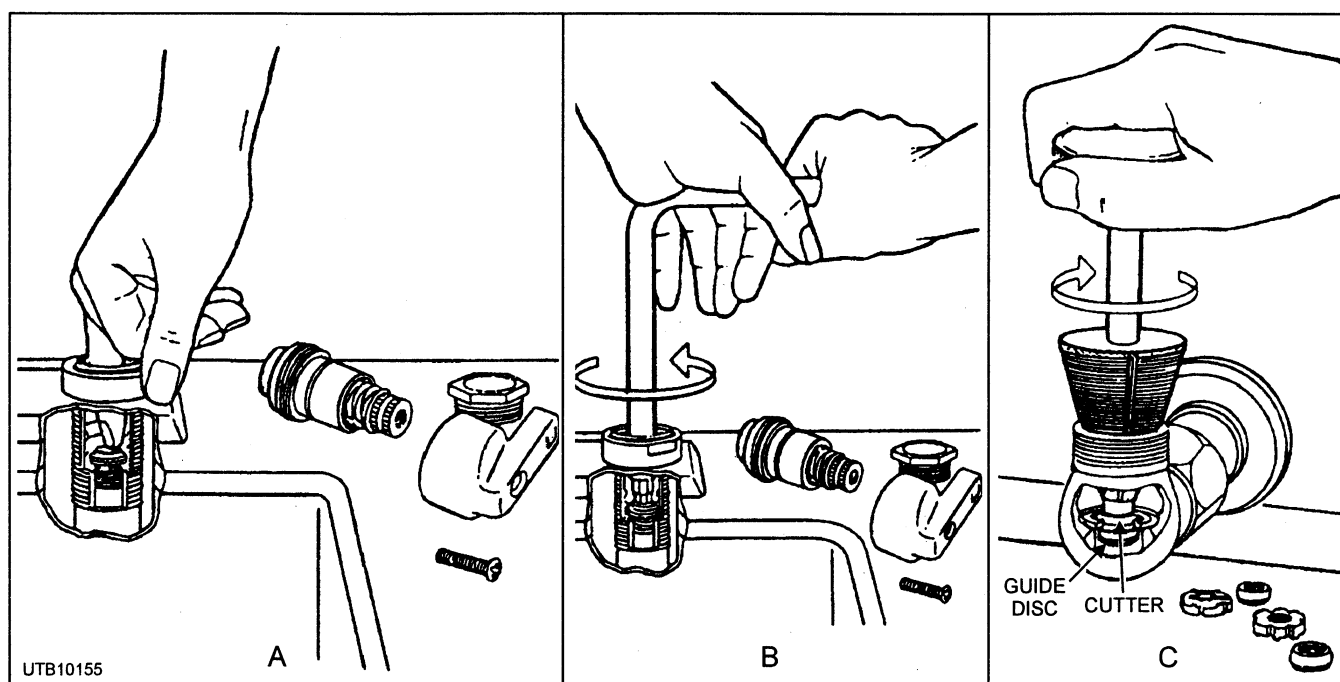

Figure 5-46.—Inspecting, removing, and refacing faucet seats.
4. If the brass screw is in poor condition, replace it with a new one (view A, fig. 5-46).
5. Examine the valve seat and repair or replace it with a new one (view B, fig. 5-46), if necessary, before replacing the spindle; otherwise, a new washer provides adequate service for only a short time.
6. Reface or ream solid seats (view C, fig. 5-46) with a standard reseating tool consisting of a cutter, a stem, and a handle. Rotate the tool with the cutter centered and held firmly on the worn or scored seat. Take care to prevent excessive reaming. Remove all grinding residue before reassembly. A solid seat can be replaced with a renewable seat by tapping a standard thread into the old solid seat and inserting a renewable seat.